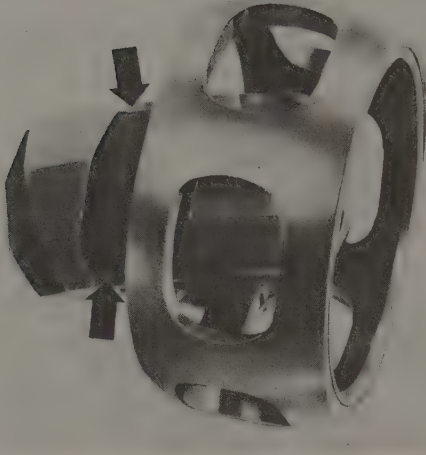

Fig. 5-16. Hub being removed or installed. Arrows indicate alignment of hub ball groove with edge of cage.
4. Rotate the ball hub into the position shown in Fig. 5-16. The ball grooves on the hub must be in line with the outer edge of the cage. The hub now has sufficient clearance to be rotated out of the cage.
2. Thoroughly coat all components with molybdenum disulfide grease, and install the hub in the cage as illustrated in Fig. 5-16 above.